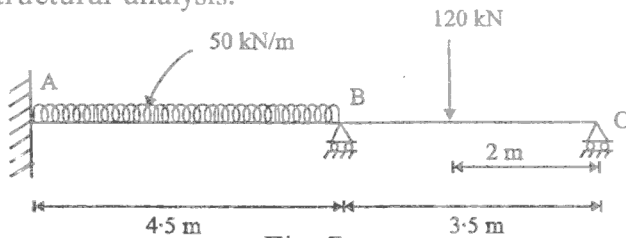

Fig. 7
- (b) Analyse the beam shown in fig. 7 by force method of structural analysis. 15